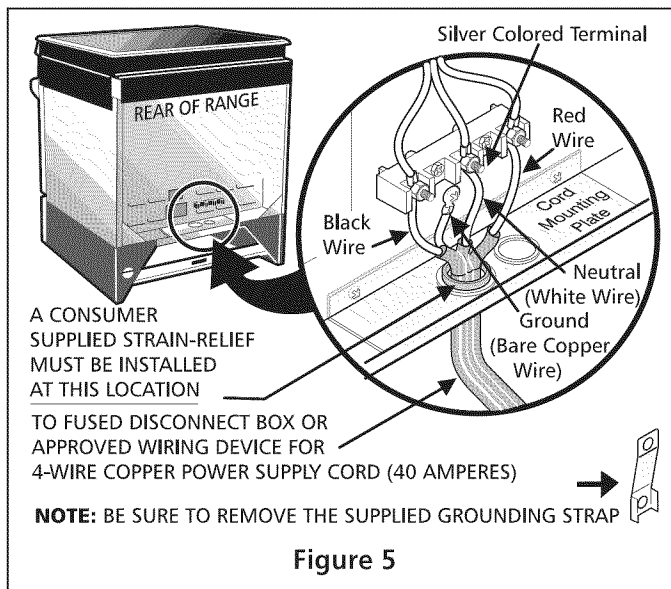

Figure 5
- C. Connect the ground wire (green) of the copper power supply cord to the frame of the appliance with the ground screw, using the hole in the frame where the ground strap was removed (see Figure 5).